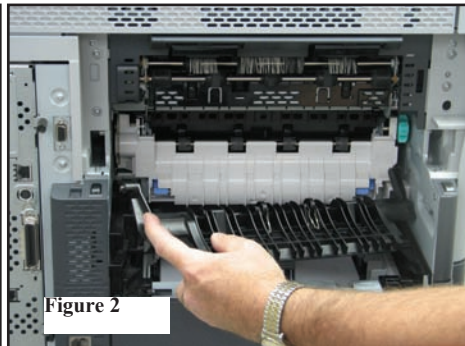

Figure 2
6. Remove the fuser exit guide by slipping your index finger in along the left side and bending in and pulling out. (Figure 2)